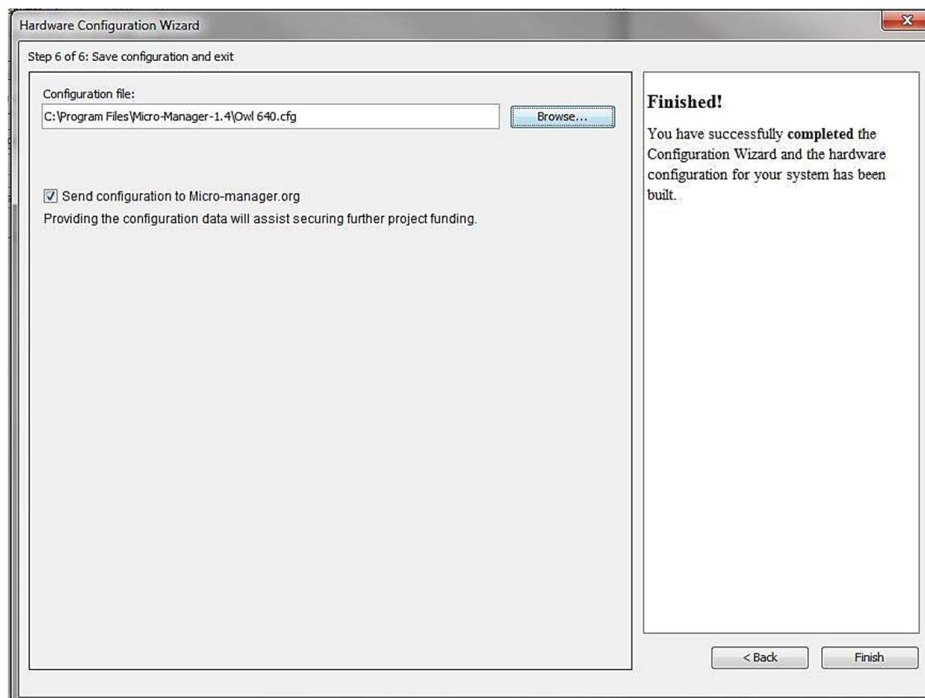

Figure 25: Save Configuration
4. Rename and save new configuration (e.g. "OWL 640" as shown in Figure 25).